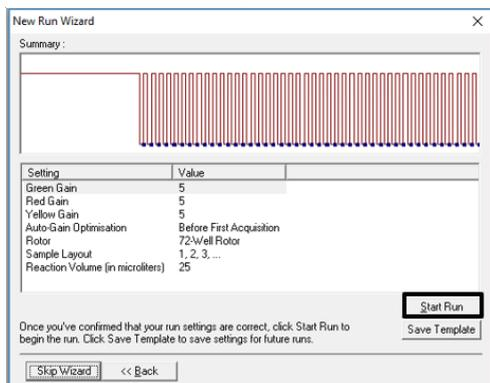

Figure 21. Start run.
28. Review the summary, then click **Start Run** to save the run file and start the run (Figure 21).